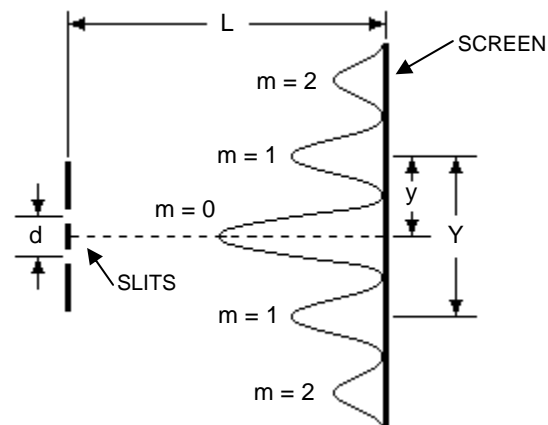

FIGURE 2 – Double slit interference
Let's say that we have a situation in which laser light is incident on two very small slits. The slits are a distance, d , apart and a screen is placed a distance, L , from the slits. See **Figure 2**. Light from a laser is monochromatic – meaning it is made up of light with one wavelength. We use a single wavelength of light so that we can simplify the analysis of the interference effects. If we shine a laser on the slits, the light waves will
travel through each slit and then proceed to the screen. For points on the screen that are off of the central axis, one wave of light will travel a farther distance than the other. If the two waves of light are *in phase* when they meet at the screen then you will see a bright spot (constructive interference). If the two beams of light are *out of phase* when they meet then you will see a dark spot (destructive interference). As a result, you should see a pattern of bright and dark spots (or fringes) on the screen. This pattern is shown as peaks of brightness and valleys of darkness in **Figure 2**.
In the lab you will be measuring the distance, Y , from one bright fringe to its counterpart fringe on the other side of the central axis. See **Figure 2**. You will then divide this distance by two, $y = Y/2$, and use this value in the above equation. This process will give you more accurate data.
- Measure the distance, **Y**, from one bright fringe to the other for the same order number. See **Figure 2**. Place these values in the chart.